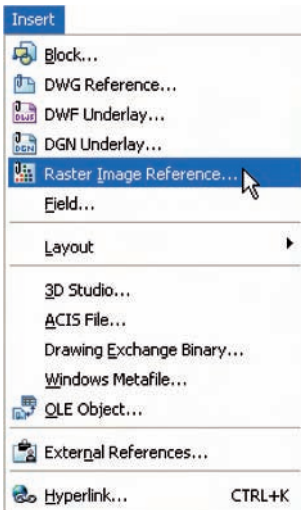
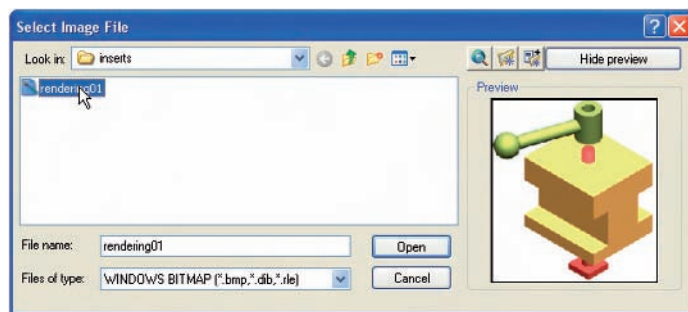

Fig. 10.9 Selecting **Raster Image Reference . . .** from the **Insert** drop-down menu
Fig. 10.10 The **Select Image File** dialog
1. Click **Raster Image Reference . . .** from the **Insert** drop-down menu (Fig. 10.9). The **Select Image File** dialog appears (Fig. 10.10). Click the file name of the image to be inserted, in this example **rendering01.bmp**. A preview appears in the **Preview** area of the dialog.
As can be seen from the **Insert** drop-down menu (Fig. 10.9) a variety of different types of raster and other images can be inserted into an AutoCAD drawing. Some examples are: